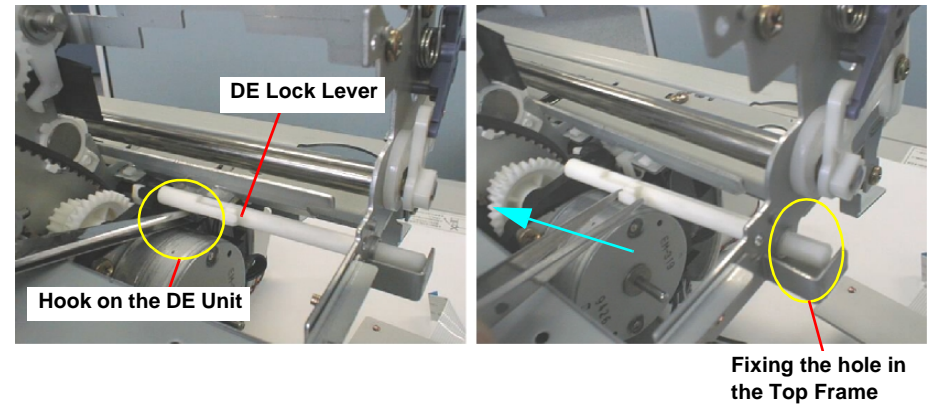

Figure 4-23. Removing the DE Lock Lever
- 8) Push down the hook on the DE unit carefully and slide the DE Lock Lever until it touches the right frame. The left end of the DE Lock lever comes off the hole (for DE Lock Lever) in the DE unit. Refer to Figure 4-23.
- 9) Pull the left edge of the DE Lock Lever to your side slightly and slide it to the left carefully to remove the DE Lock Lever from the hole in the Top Frame. Refer to Figure 4-23.